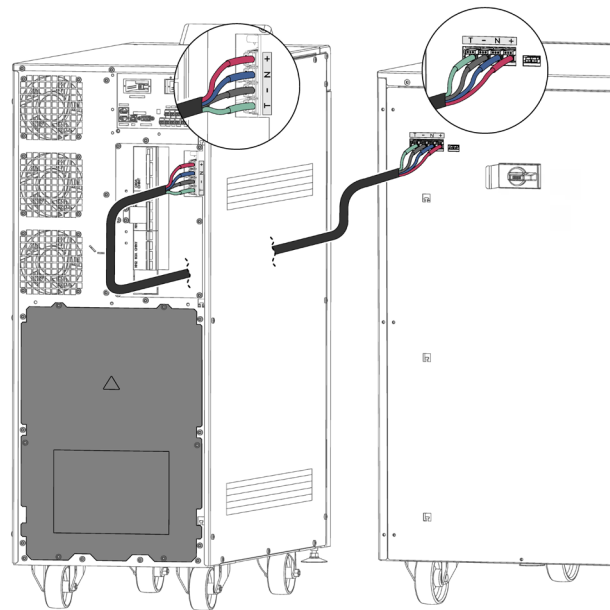
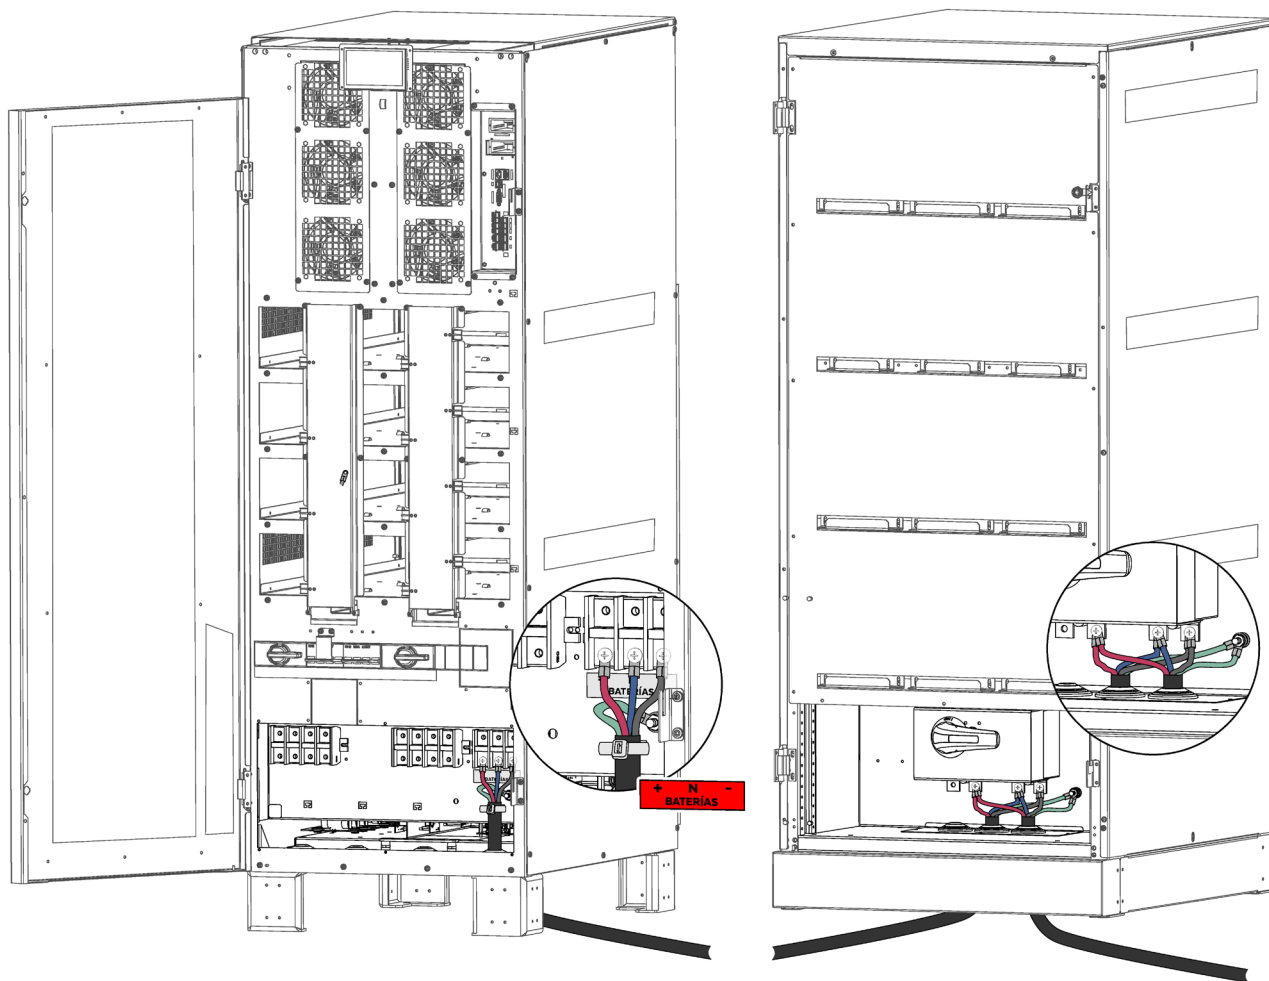

Fig. 48. Connection between the UPS and a battery cabinet for 30-40 kVA equipments.
Fig. 49. Connection between the UPS and a battery cabinet for 50-80 kVA equipments.
- The battery cabinet is connected to a B1 model UPS using the cable bundle supplied, connecting one end to the UPS terminals and the other to the battery module terminals, observing the polarity indicated on the labelling of each element and in this manual. Observe the connections according to cable colour: a UPS positive colour to a battery cabinet positive; another UPS negative colour to a battery negative; another UPS neutral colour to the battery middle tap (N). Use the green-yellow cable to interconnect the earth connections, see Fig. 48 and Fig. 49.